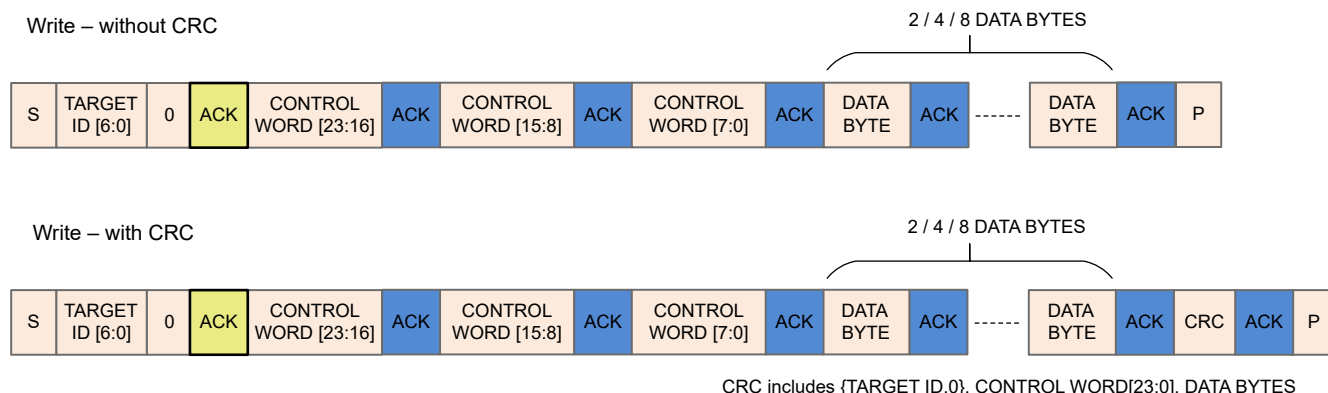
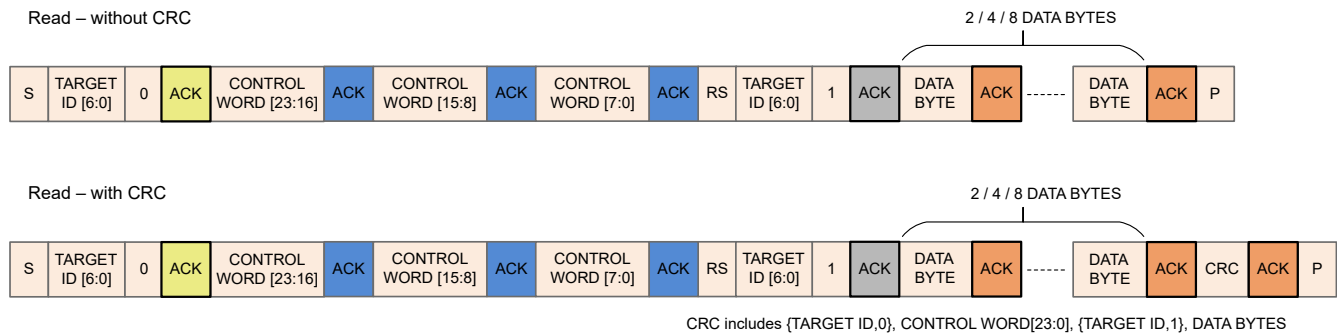

**Figure 6-67. I2C Write Transaction Sequence**
**Figure 6-68. I2C Read Transaction Sequence**
MCF8315D write transaction over I2C involves the following sequence (see Figure 6-67).
MCF8315D read transaction over I2C involves the following sequence (see Figure 6-68).
- When target ID is a match, I2C peripheral in MCF8315D raises a start interrupt request. Until this start interrupt request is processed, clock is stretched. Upon processing this request, clock is released and an ACK (marked in yellow or grey in Figure 6-67 and Figure 6-68) is sent to the controller for continuing with the transaction.
- Receive interrupt pending:** When a receive interrupt is waiting to be processed and the receive register is full which occurs when two successive bytes (data or control) have been received by MCF8315D (separated by one ACK shown as blue boxes in Figure 6-67 and Figure 6-68) without the receive interrupt generated by the first byte being processed. Upon receive of second byte, clock is stretched until receive interrupt generated by the first byte is processed.